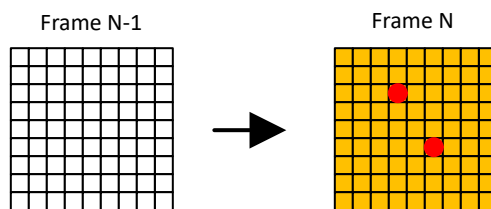

**Figure 7-7. On Demand Data Refresh - Mode 1**
**Mode 1:** 8-bit PWM data without VSYNC command. Data is sent out for display instantly after received. With Mode1, users can refresh the corresponding dots' data only instead of updating the whole SRAM. It is called 'on demand data refresh', which can save the total data volume effectively. As shown in Figure 7-7, the red LED dots can be refreshed after sending the corresponding data while the others kept the same with last frame.